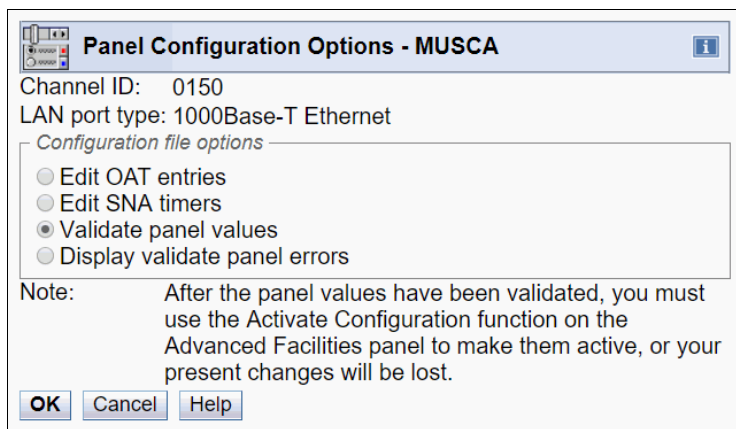

Figure 6-15 OSA/SF on the HMC: Validate panel values
11. When you complete editing the OAT entries or SNA timer, the Panel Configuration Options window is displayed again. To activate the settings, you must validate them by selecting **Validate panel values**. Then, click **OK** (see Figure 6-15).